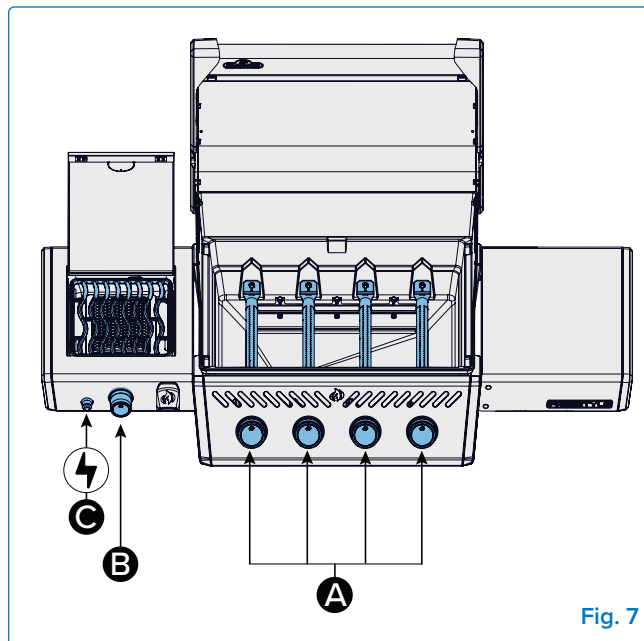
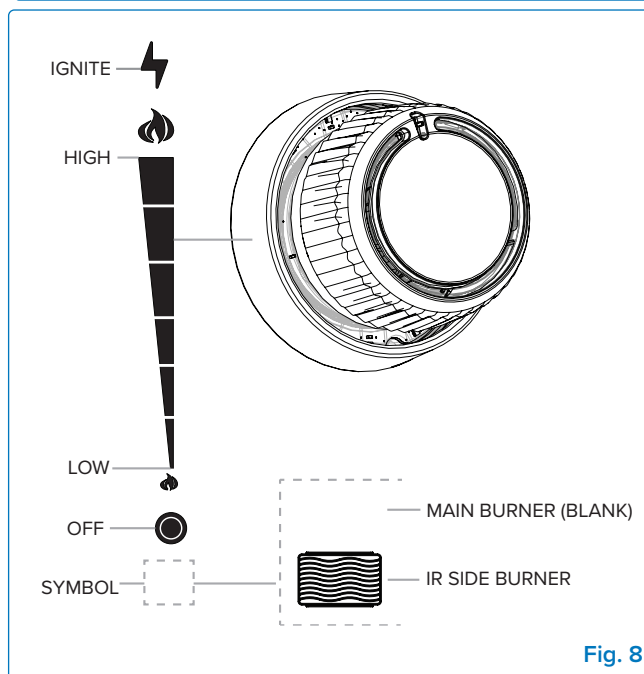
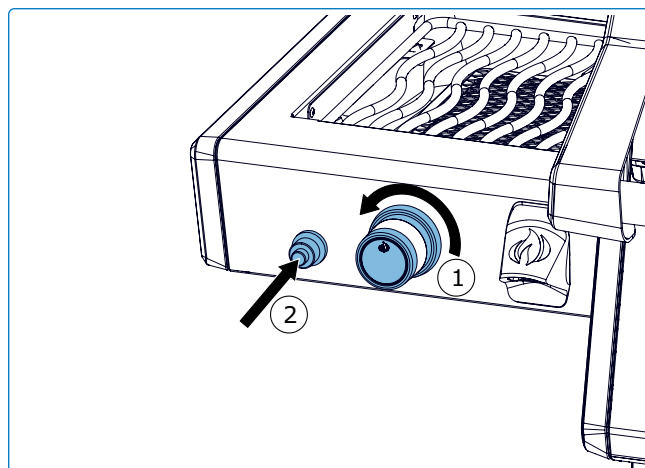

Fig. 7
Fig. 8
Fig. 10
1. Open grill lid (**Fig. 7**).
2. Push and slowly turn any main burner knob counter clockwise to HIGH position until pilot lights. Continue to push down on the control knob until the burner lights and then release (**Fig. 7-A, Fig. 8**).
2. Push and slowly turn side burner knob counter clockwise to HIGH position (**Fig. 7-B, Fig. 8, Fig. 10**).
3. Press and hold igniter button until the burner lights, or light by match (**Fig. 7-C, Fig. 10**)